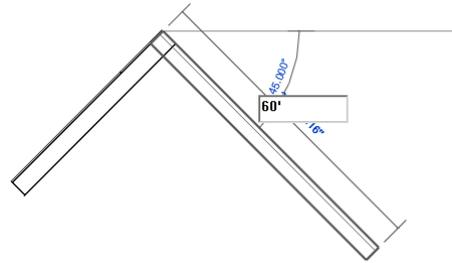

Figure 3-44 Sketching the second inclined wall segment
5. As the **Chain** check box is selected in the **Options Bar**, the second wall segment will start from the last specified point. Now, move the cursor downward toward the right and right-click to invoke the shortcut menu. Next, choose **Snap Overrides > Perpendicular** from the shortcut menu displayed; the perpendicular snap symbol appears at the end of the wall. Enter **60'(18288 mm)**, see Figure 3-44; a wall is created perpendicular to the first inclined wall.